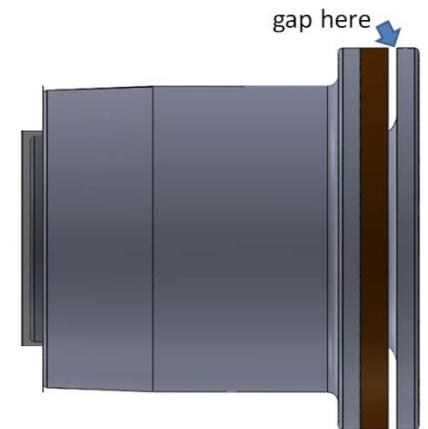

Figure 2: 2WD arms that are too narrow will exhibit a gap between the inner sleeve and bushing when installed.
7. Check for gap [Fig 2]. There should be no gap present or any noticeable fore/aft movement of the UCA. **If no gap or movement is present, skip the next step.**